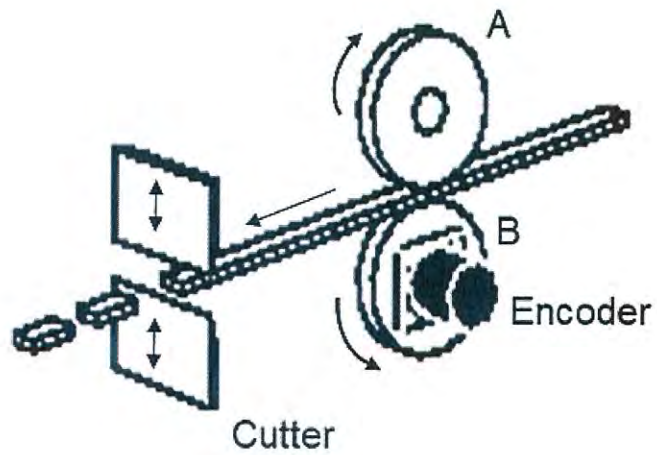

Figure Q4(c)
- (c) A caddy packing machine would apply a rotary encoder to read the length of the package. Mechanically a rotary encoder is attached to the main shaft of the rotary rollers as simplified in **Figure Q4(c)**, in order to convert rotary measurement into linear measurement. The rest of the mechanism for packaging is not shown. The rollers, A and B, clamp firmly the caddy bar and feed it into the rotary cutter. Given that the encoder has 1000 pulses/rev; roller A and B are identical and its diameter is 200mm. (Assuming no slip happens between the rollers and the caddy.)